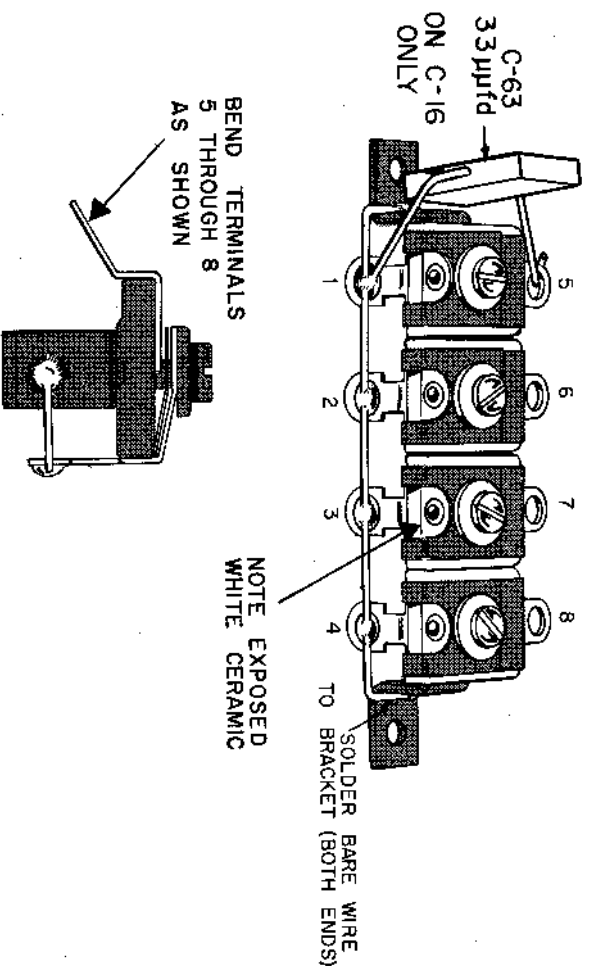

FIGURE 14. PREPARING THE TRIMMER STRIPS
SEE FIGURE 14.
Two, identical trimmer strips are supplied. Each consists of four 3-30 μfd trimmers mounted on a bracket. Notice that terminals 1, 2, 3 and 4 on one side of each trimmer are just below the exposed white ceramic, as shown in Figure 14. These terminals must be properly identified and wired or the receiver will not work.
- ☑ Position one of the trimmers exactly as shown in Figure 14. This trimmer will be used as C-16.
- ☑ Position the other trimmer strip, C-12, exactly as shown in Figure 14.